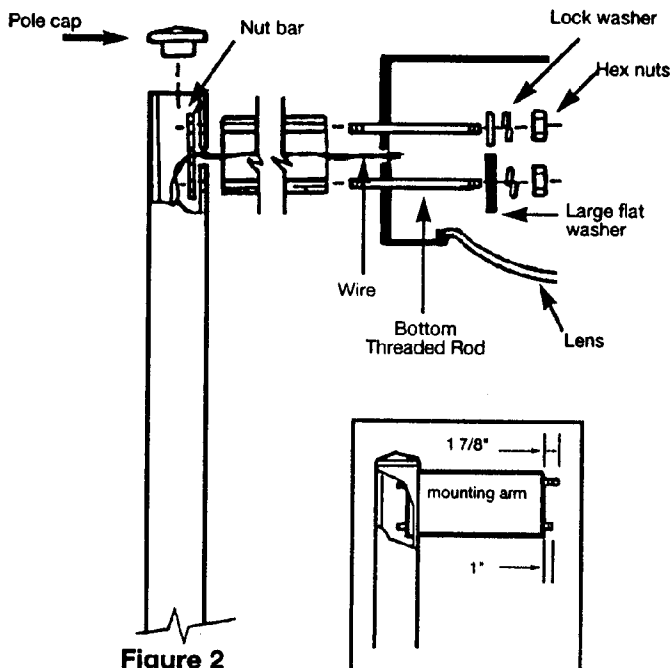

Figure 2
3. Slide arm over rods. Place housing over protruding rods. (See Figure 2)